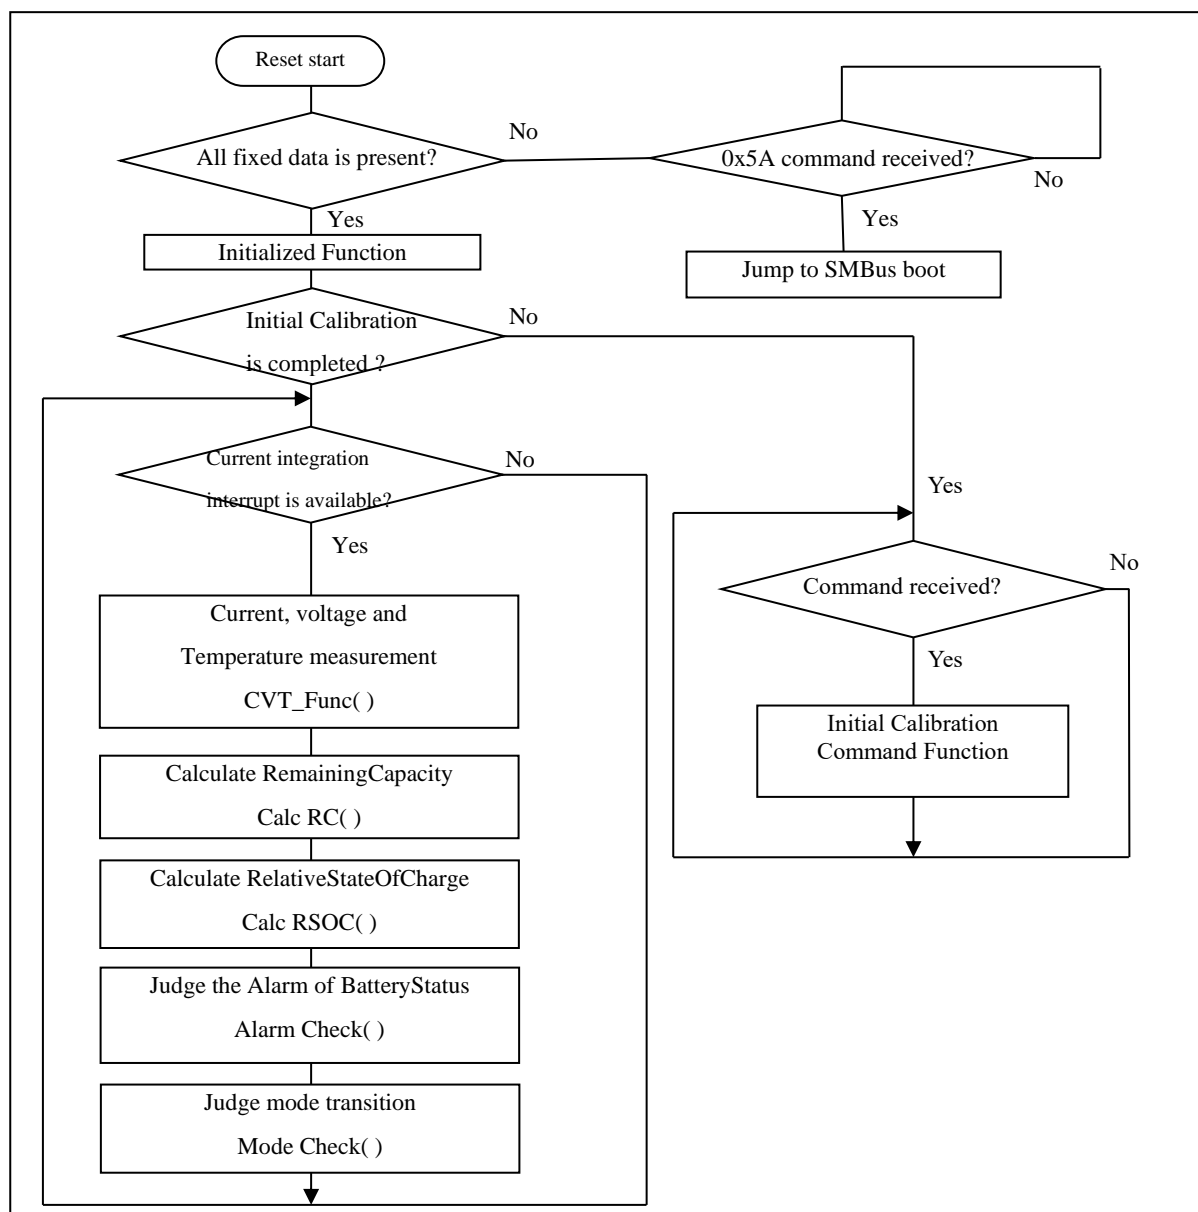

Figure 1. General flow chart
Figure 1 shows the general flow chart of sample source code. The sample code consists of two main loops. One is the normal operation loop, and the other is the initial calibration loop. These two main loops are independent of each other.
At the start, the sample code will perform checks for the fixed data availability. If any one of Fixed Data is not available, the sample code will only accept SMBus boot jump (0x5A) command. Under such condition, an appropriate fixed data needs to be set for the missing fixed data area in order to pass the Fixed Data check, as shown in Figure 1. To set the missing values in the fixed data, please use 0x5A command to jump into SMBus boot mode.
- Table 1 below summarize the modes shown in Figure 1